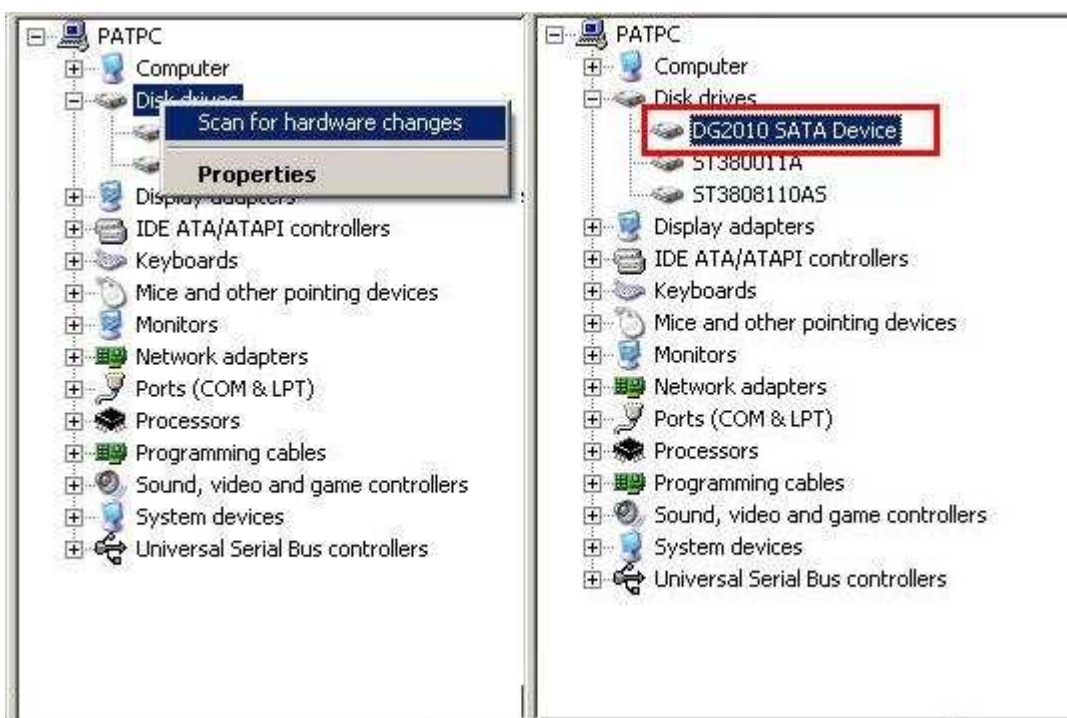

Figure 4 New disk detected on Windows XP
- New SATA-Device disk (DG2010 SATA Device) is detected as shown in Figure 4.